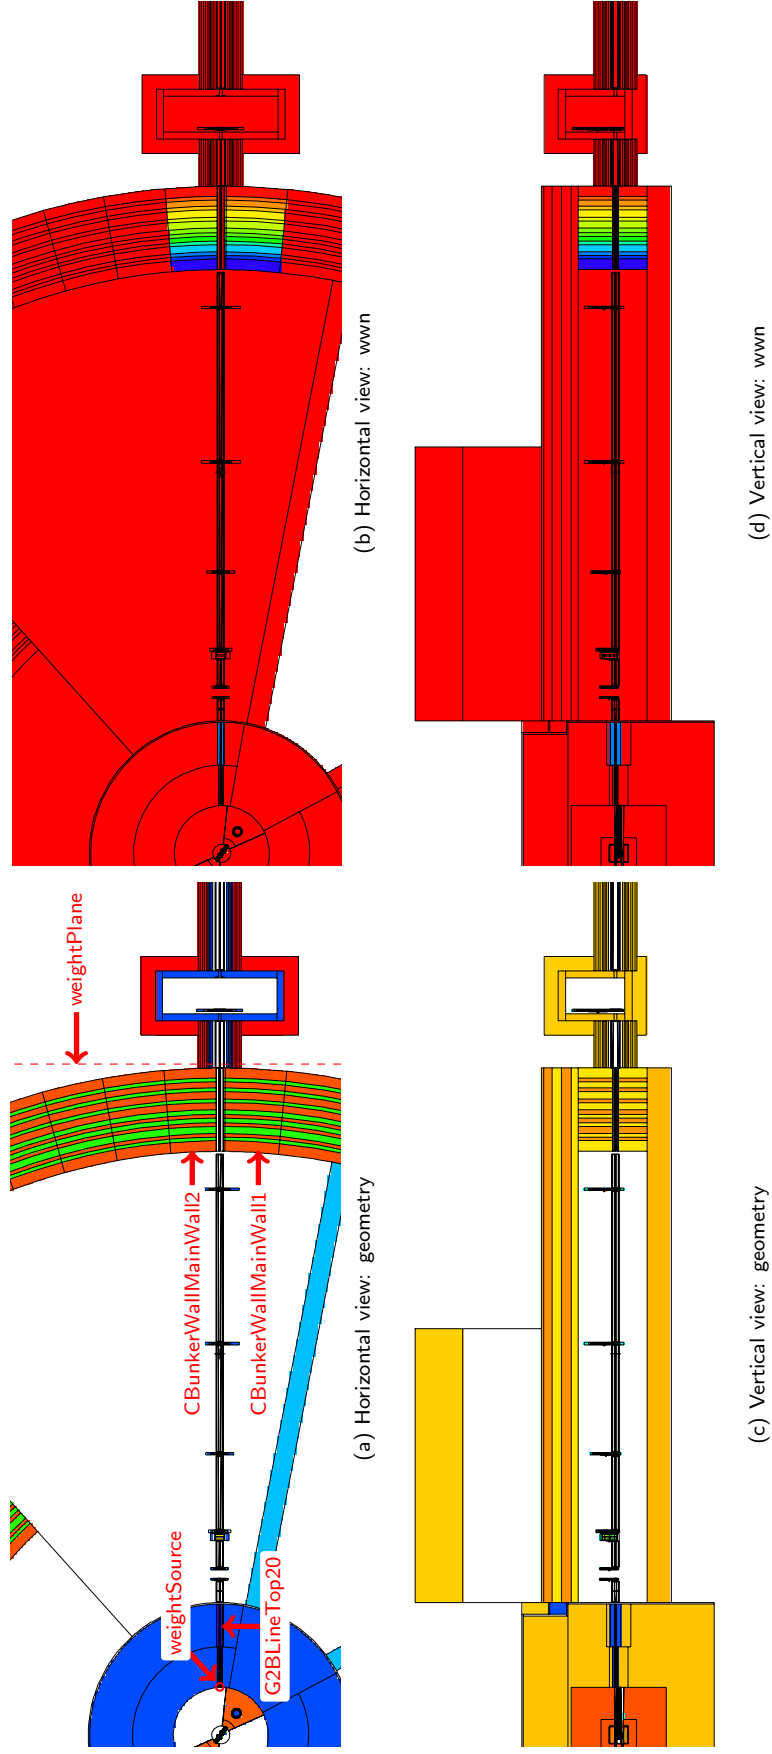

Figure 3: Cell-based weight window
-defaultConfig Single ODIN -angle objAxis odinAxis 0 These optional arguments build the ODIN beam line and rotate geometry around the z axis in such a way that ODIN is collinear to the x axis. This rotation simplifies the weight window source plane setup for the current example and used here for illustration purpose (see Fig. 3).